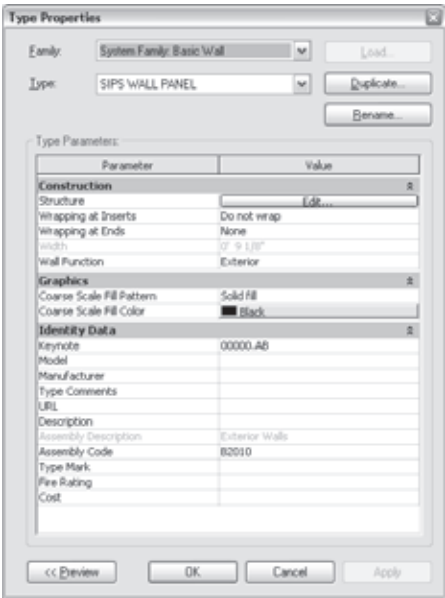

Figure 10.57
**Element** This value can be set in the properties of the various families in a Revit project. By selecting a wall, for example, you can open this wall’s properties, and then click Edit Type to reach the wall type properties. Under Identity Data, you can then define a keynote (Figure 10.57). Selecting this field, you will be presented with the same Keynote table that you’d receive if noting this element in a view. If the note is incorrect for this project or element, you have the option to change the note here as well.